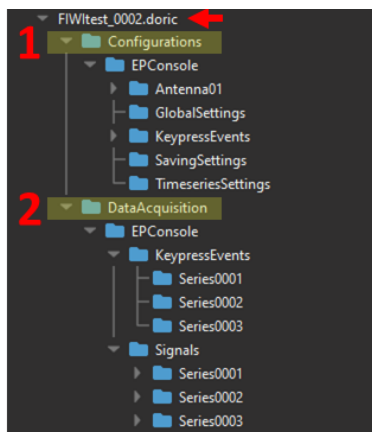

Figure 12.22: General Structure of a .doric file
The file structure begins with the data **File** itself, which is labeled as *FILENAME.doric* (Fig. 12.22, arrow), followed by two² branches (Fig. 12.22, 1-2):
1. The **Configurations** branch (Fig. 12.22, 1) contains all the recording parameters set during the recording, including *Saving*, *Global*, *Time series* and channel-specific folders (Section 12.4).
2. The **Data Acquisition** branch (Fig. 12.22, 2) contains and organizes the raw data (Section 12.5).